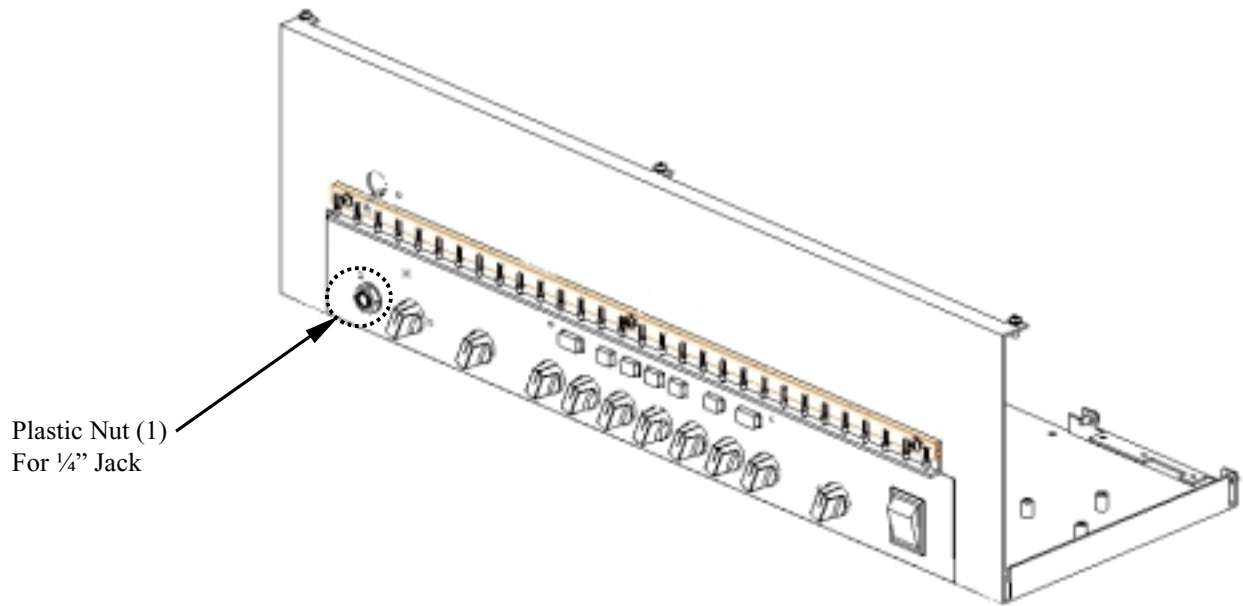

Figure 6
- i. Secure guitar input PCBA using plastic nut. See figure 6.